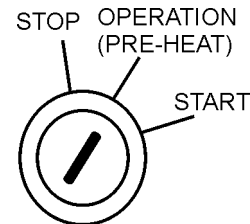
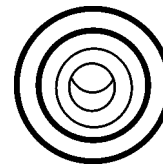

Figure 42. Ignition Switch (Operation Pre-Heat Position)
Figure 43. Pre-Heat Indicator Lamp
- Preheat the engine **glow plugs** by turning the ignition key (Figure 42) to the **"OPERATION"** position.
- When the preheat lamp illuminates (Figure 43), turn the ignition key to the **"START"** position. Once the engine starts, release the ignition key and allow it to return to the **"OPERATION"** position (Figure 42).